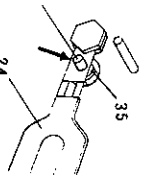

Fig. 27
Gently set (35) into (24) on the upper side of MAGNET ASSY as shown in Fig. 27.
Detach (31) STANDOFF by (802) (8mm spanner) as shown in Fig. 27
Secure (35) with (802) (8mm spanner) in a way as shown in Fig. 27 and clamp (23) NUT by (801) (7mm box driver) to secure it.